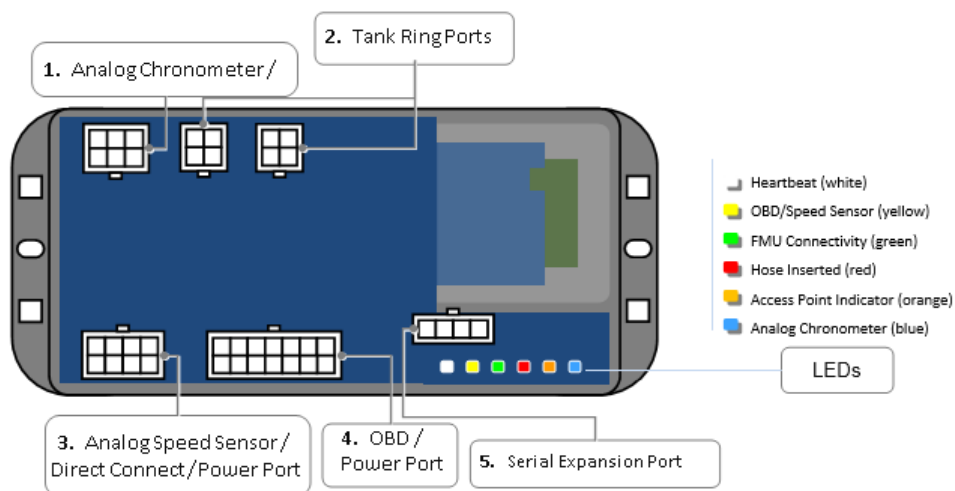

Figure 9. AIM Titanium Module
7. Plug one end of the cable into one of the module's two Tank Ring Ports. Either end of the RFID Extension Cable may be connected to the AIM (Figure 9).
17. Connect the Analog Speed Sensor Cable to the AIM module Power/Speed Sensor Port (Figure 9).